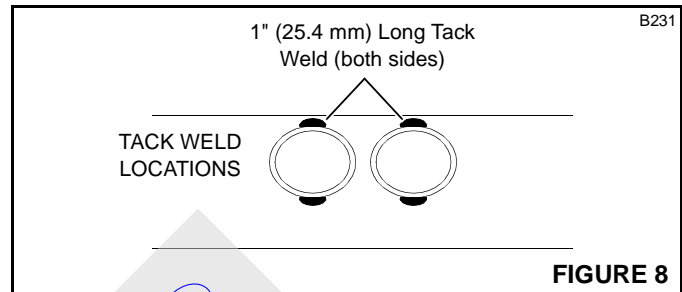

FIGURE 8
8. Tack weld the new lacing into position at both ends with a 3/32 in. (2.4 mm) electrode. The tack welds should be approximately 1 in. (25.4 mm) long on both sides of the lacing as shown in Figure 8.